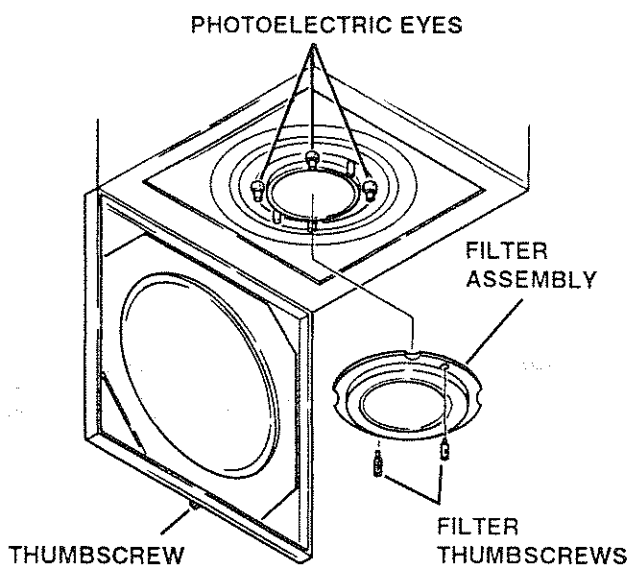

Figure 2-2.
1. Loosen the thumbscrew securing the diffuser cover and lower the cover. See Figure 2-2.